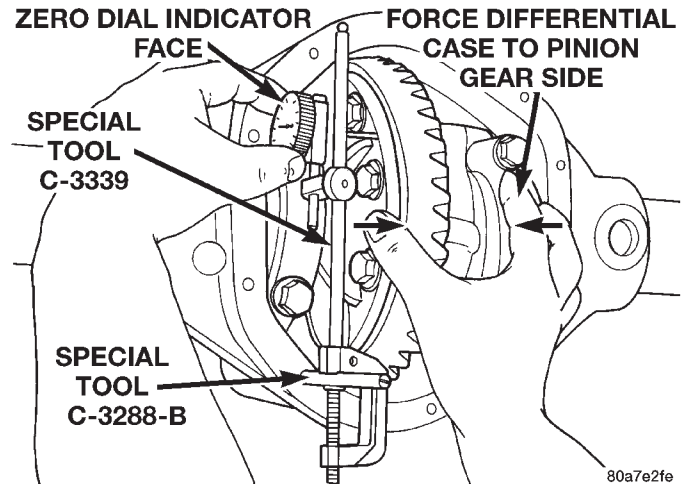

Fig. 75 Hold Differential Case and Zero Dial Indicator
- (10) Push firmly and hold differential case to pinion gear side of axle housing (Fig. 75).
- (11) Zero dial indicator face to pointer.